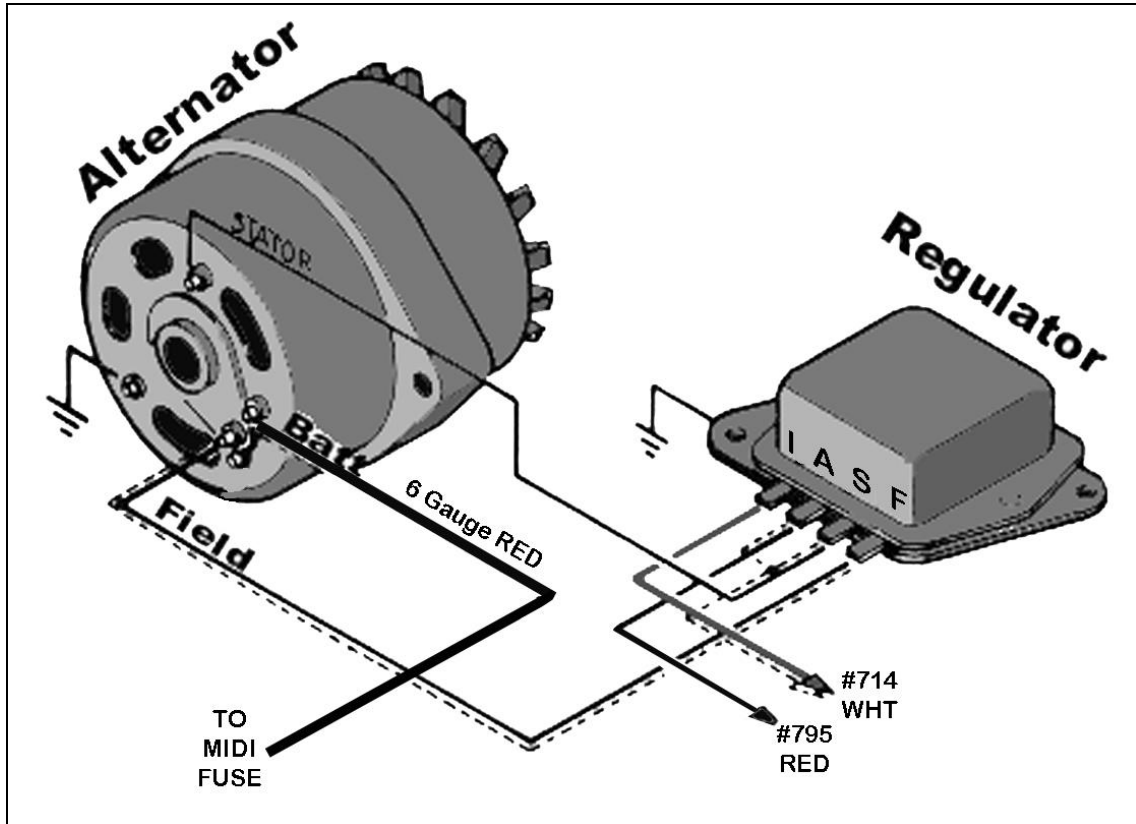

Figure 8.3 Motorcraft Alternator (2 configurations)
8.2.1 Motorcraft Alternator (2 configurations). See Figure 8.3.